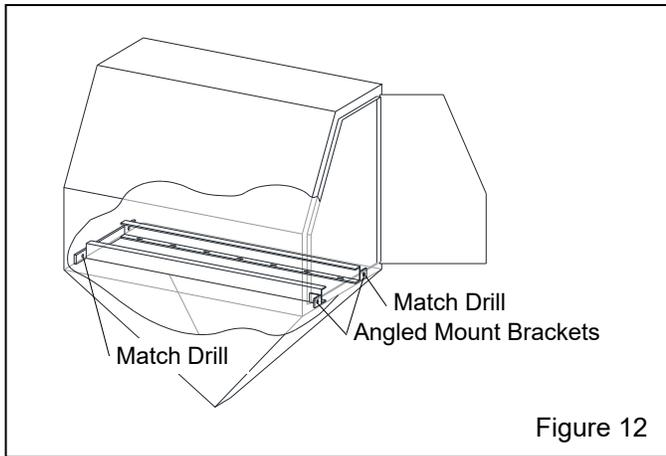

Figure 12
3.5.3 Center the track and table assembly inside the cabinet on top of the grate. Make sure the two angled mounting brackets are facing toward the door from which the table will slide, refer to Figure 12.